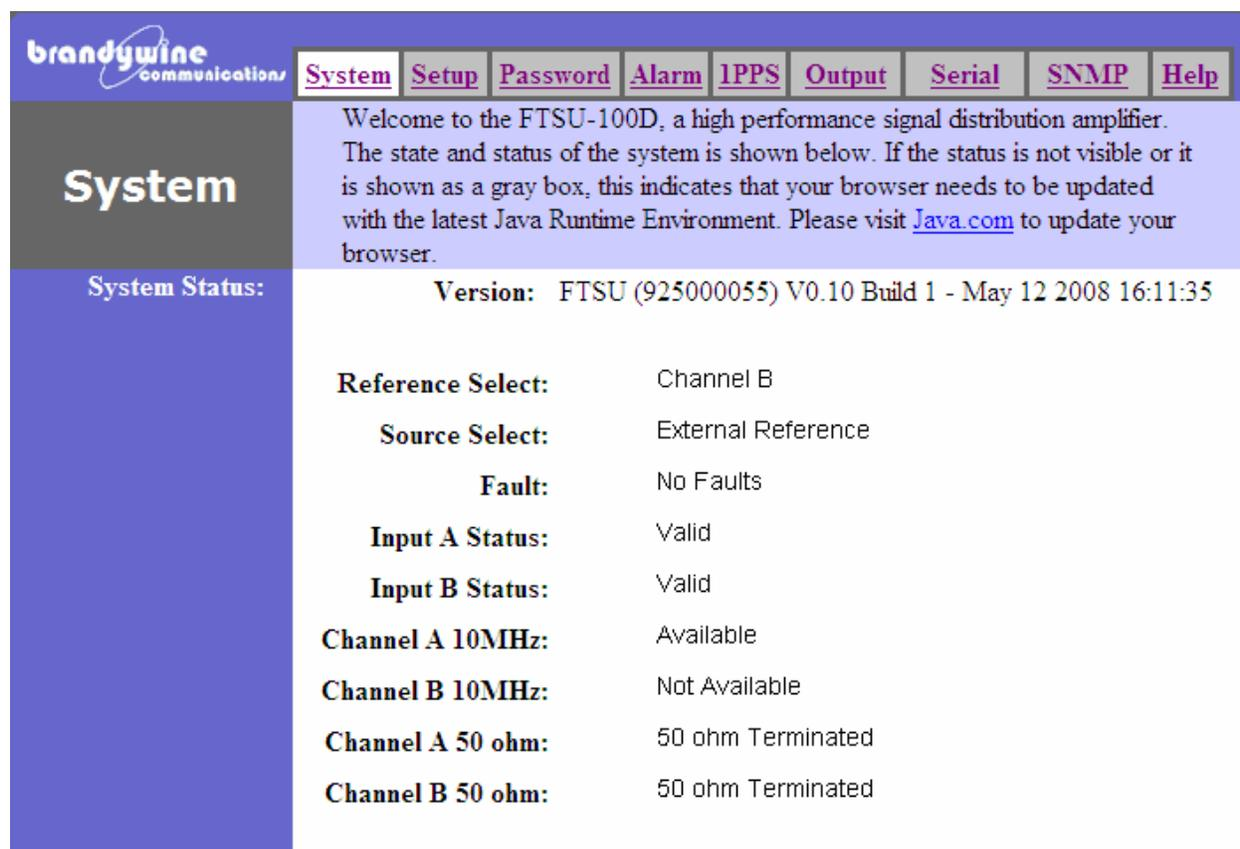

Figure 2 FTSU-100D System Screen
11. Figure 2 will be displayed.
4. Figure 2 will be displayed.